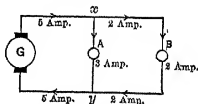
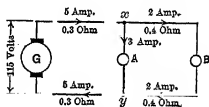

FIG. 63. The line current between the generator and lamp *A* is 5 amperes while the line current between the lamps is only 2 amperes.
FIG. 69. The voltages across the lamps are different:
Suppose, as in Fig. 63, two lamps *A* and *B* are connected to a circuit in such a way that *A*, taking 3 amperes, is much nearer the generator than *B*, which takes 2 amperes. Then in the section of the line which lies between *A* and *B*, 2 amperes must flow in order to supply lamp *B* with 2 amperes. But the section of the line between the generator and *A* must carry enough current to supply both lamp *A* and lamp *B*. Thus this section must carry 5 amperes.
**24. Voltage Required for the Line. Line Drop.** Let us assume that a circuit, Fig. 69, is arranged as in Fig. 63, except that the resistance of the line wires and the generator voltage are introduced. The wires from the generator *G* to the lamp *A* each have a resistance of 0.3 ohm. The wires from the lamp *A* to the lamp *B* each have a resistance of 0.4 ohm.